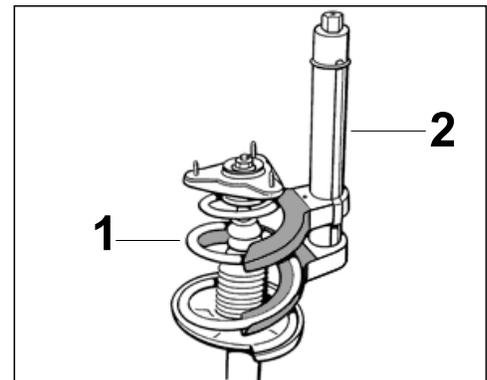

Figure 3
2.1.3 Pre-tension new coil spring using spring tensioner (⇒ *Figure 3*).
2.1.4 Position new coil spring on the shock absorber as shown in Figure 3 (⇒ *Figure 3*). The end of the coil spring is touching the stop on the concave washer.